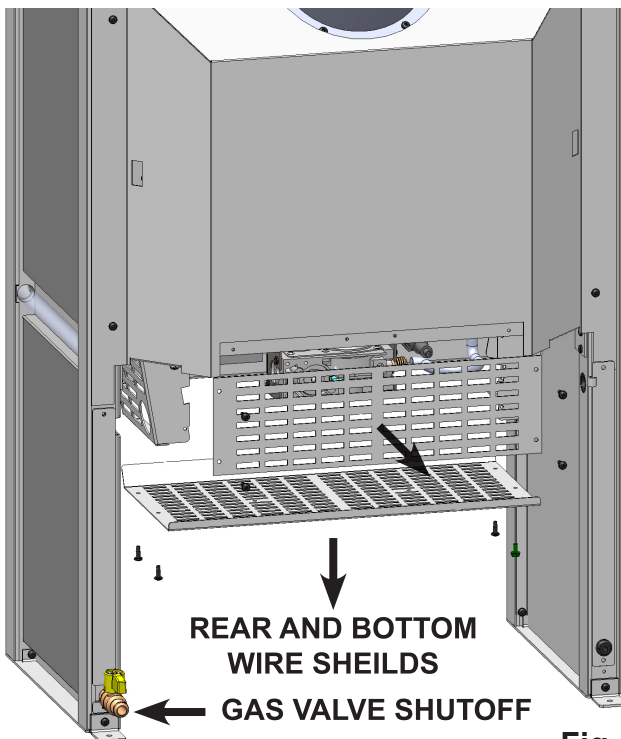

Fig. 17
3. Remove the bottom and rear wire shields (7 screws, 1 ground) (**Fig. 17**).